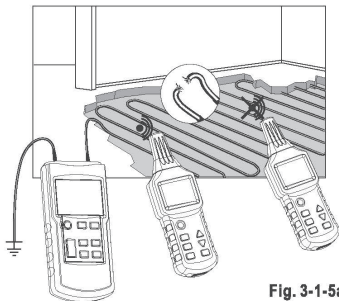

Fig. 3-1-5a
- * All lines not being used must be connected to the auxiliary ground as shown in Fig. 3-1-5a.